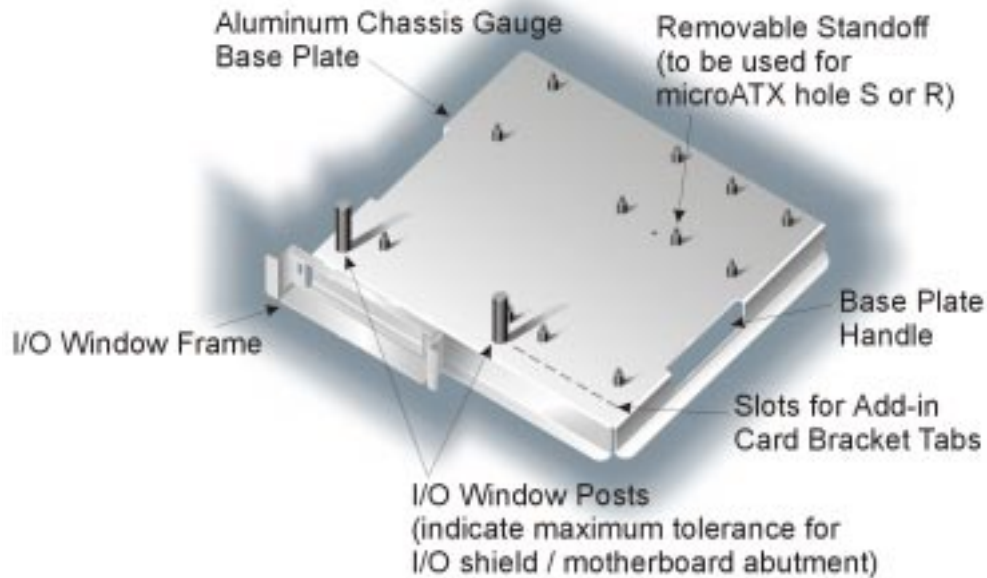

Figure 1. Base Plate and I/O Window Frame Gauge
1. Figure 1 shows the aluminum base plate with the removable standoff.